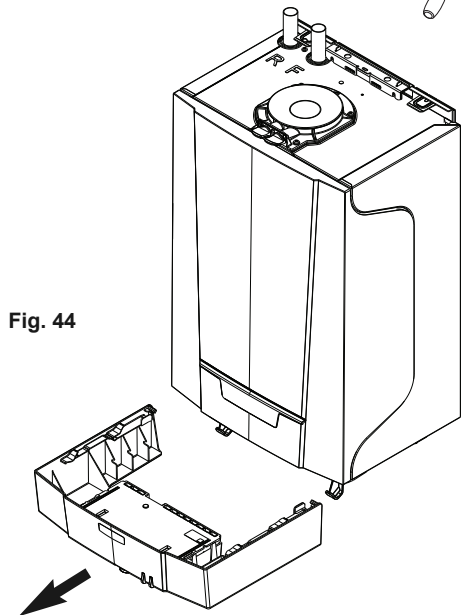

Fig. 44
2. Slide the lower front panel forward and hinge down or remove (Fig. 44).